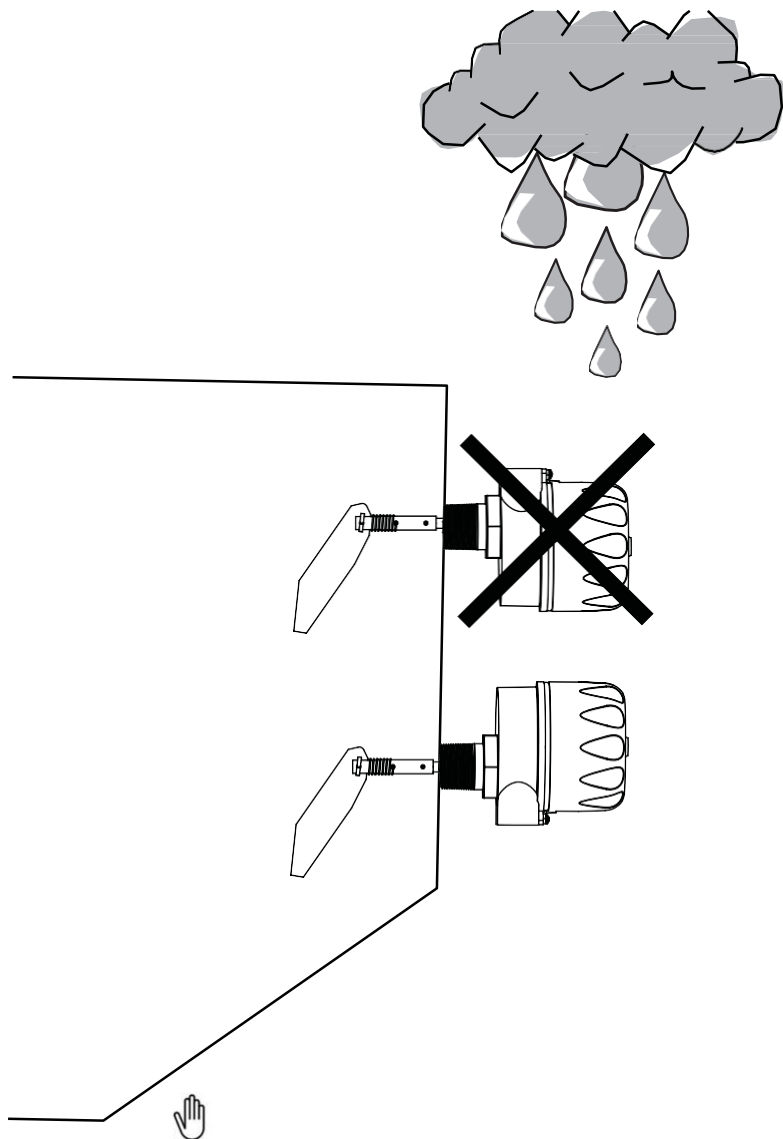

Figure 4: Correct Housing Orientation
4. Turn conduit entrances so they are in the correct position as shown in Figure 4.
3. Turn conduit entrances so they are in the correct position as shown in Figure 4.